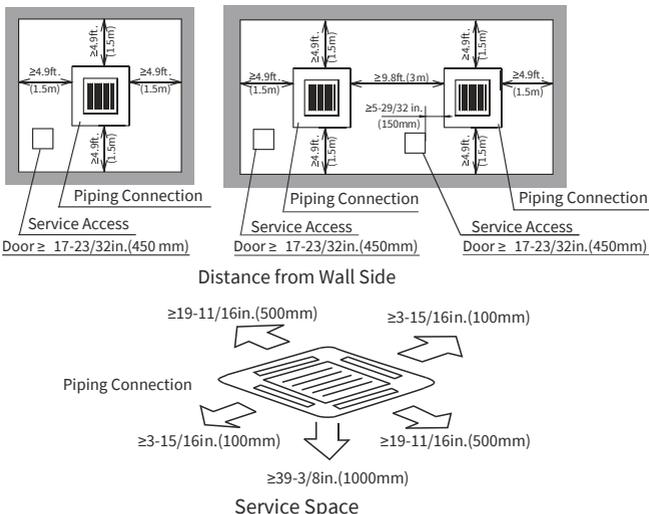

Fig. 3.1 Space around Indoor Unit
1. Install the indoor unit in a space for easy operation and maintenance as shown in Fig. 3.1.